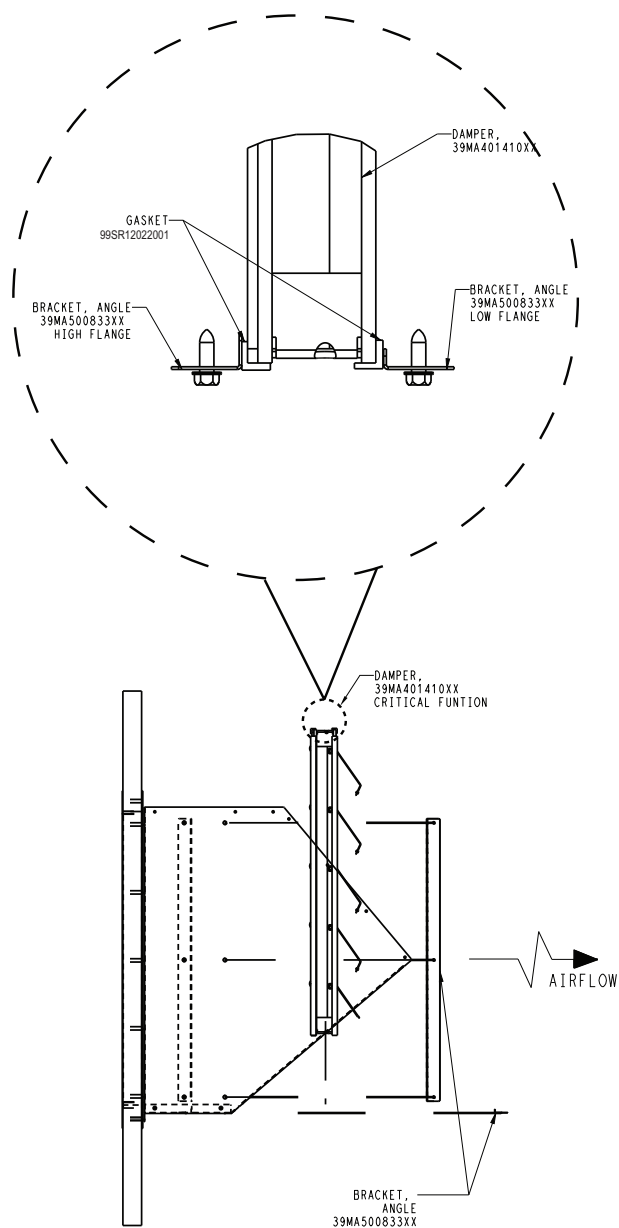

Fig. 82 — Installing the Damper
11. Install damper (if ordered) as shown in the Fig. 82. Orient damper blades to open out (in the direction of exhaust air.) Attach the 3 outer angle brackets to secure the damper to the exhaust hood using the 1/4 in.-14 x 5/8 in. long sheet metal screws (without neoprene washer.) After installing the 3 outer brackets, make sure the damper moves freely.